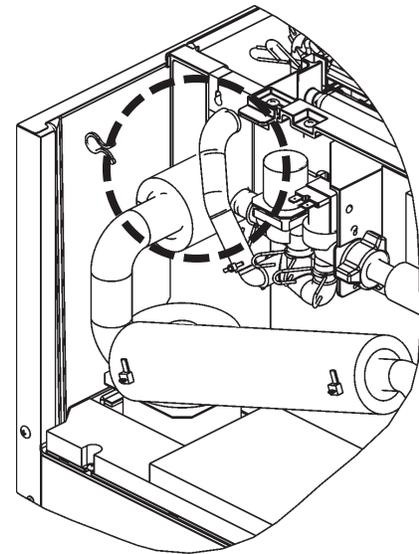

Fig. 1
5) Freeze Cycle – The compressor remains energized, pump motor, (line valve if applicable), and fan motor energize. The inlet water valve and hot gas valve de-energize. The unit is held in freeze by a 5 minute short cycle protection timer which starts after the thermistor temperature reaches 36°F (2°C). After this period, the freeze cycle operation is transferred to the float switch for freeze termination. During the first 5 minutes of freeze, confirm that the evaporator temperature drops. After the minimum freeze period, disconnect the float switch at the 2-pin connector attached to the red wires. See Fig. 1 for general location. The unit should immediately switch to the drain cycle. **Diagnosis:** If the evaporator is not cold, check to see if the hot gas valve is still open or if the expansion valve (on KM-160BAJ and 160BWJ only) is not opening properly, if the water valve is continuing to fill the reservoir, if there are improper unit pressures or an inoperative compressor. If the unit remains in freeze with the float switch removed, replace the board.
- 3) Disconnect the bin control at the 2-pin connector attached to the black wires (located in the circle in Fig. 1) coming from the K1 connector (pins 4 & 5) on the control board.